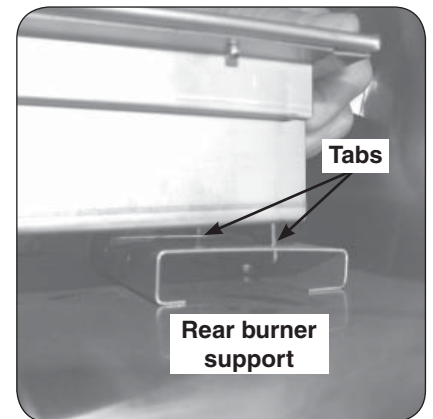
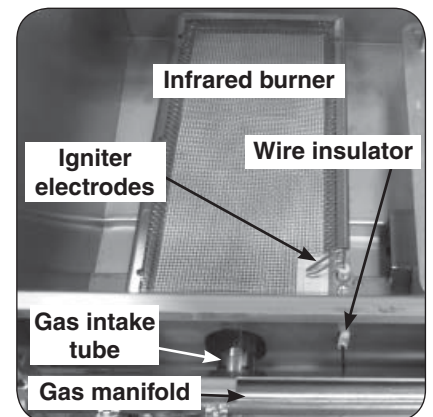

Fig. 3-3 Sliding tabs into support
Fig. 3-4 Infrared burner installed
4. Place the new infrared burner gas intake tube in the hole in the oven fire wall and over the orifice fitting, sliding it forward from behind the control panel frame, so the orifice is centered inside the burner gas tube. Set it gently onto the rear burner support, making sure the tabs on the back burner bottom each fit through their respective slots in the rear burner support. This is critical to the safe function of the grill. (See Fig. 3-3 and Fig. 3-4.)